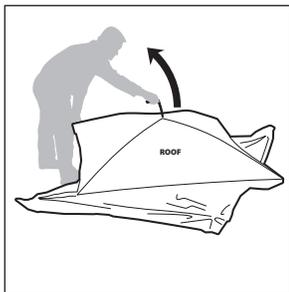

FIGURE 2
3. Grasp the webbing loop sewn onto the eyelet located in the center of the roof and pull outward until the roof section pops open. For FF9416, do the same for the other roof section. Both roof sections should now be popped open. **SEE FIGURE 2.**